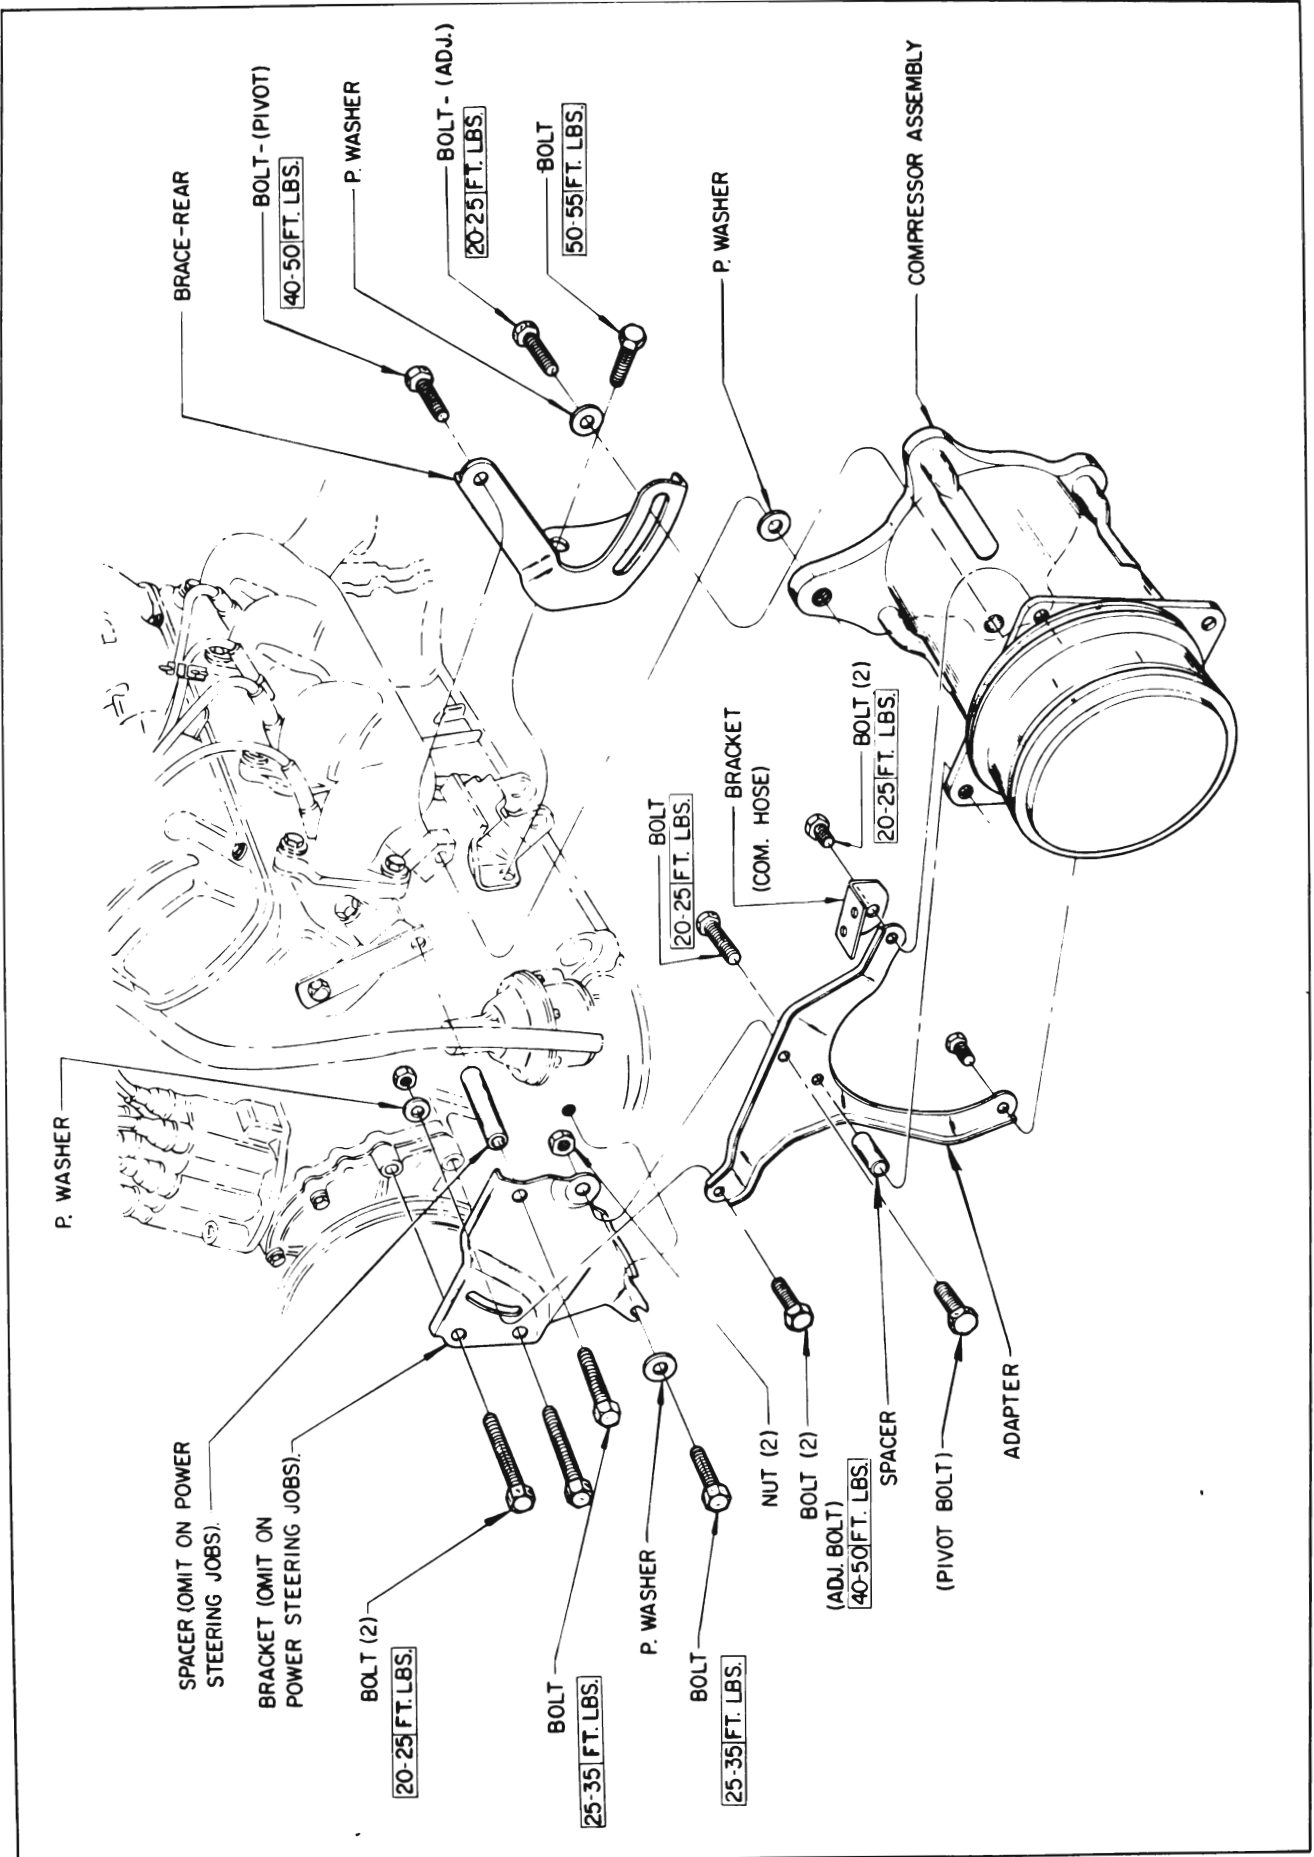

Figure 11-92—Compressor Mounting V-8 Engine
6. Remove the two bolts and nuts that retain compressor adapter to front bracket (oil pump front bracket on power steering cars). See Figures 11-92 and 11-93.